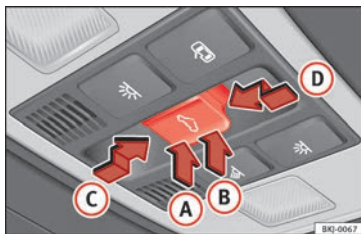

Fig. 147 On the interior roof lining: sunroof button.
The ⇐ button ⇨ **Fig. 147** has two levels. The first level switches the sunroof to the tilted position, opening or closing it fully or partially.
- Before approx. 5 seconds of having activated the roll-back function, press the **↔** button **»** **Fig. 147** to the second level in the direction of arrow **»** **Fig. 147** **D** until the sunroof closes completely.